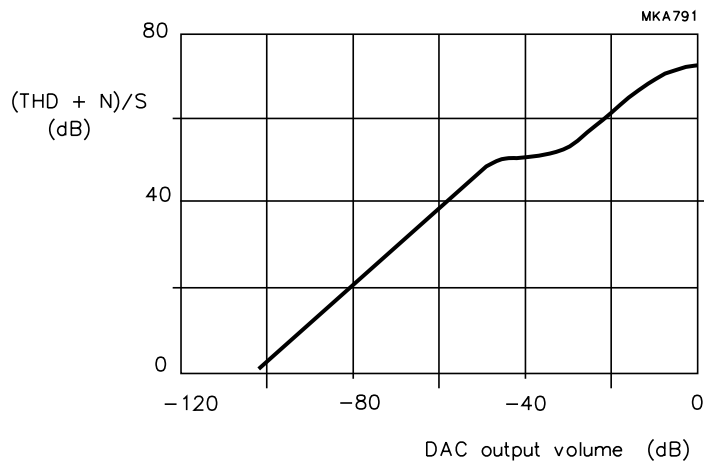

Fig.4 Total harmonic distortion plus noise-to-signal ratio as a function of output volume.
The word select input (pin 26) is connected to the word select line of the I²S-bus interface. This interface has a standard I²S-bus specification as described in the Philips "*I²S-bus specification*" (ordering number 9398 332 10011). Figure 4 shows an excerpt of the Philips I²S-bus specification interface report with respect to the general timing and format of the I²S-bus. WS logic 0 means left channel word, logic 1 means right channel word.
- MCLK (see Fig.4), which is a jitter free (maximum 30 ns jitter) external clock at any multiple integer from 45 to 128 times $4f_{as}$ (4 times the frequency of WS) of the I²S-bus input, thus for a sample frequency of 38 kHz this clock frequency will range from 6.840 MHz to 19.456 MHz in multiples of 152 kHz.